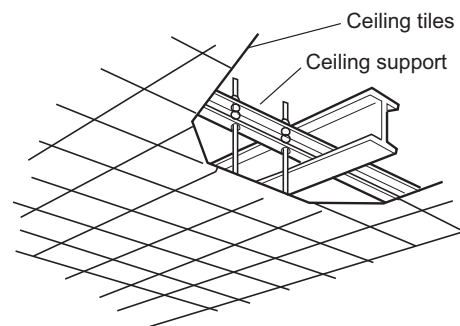

Fig. 2-177
- Use existing ceiling supports or construct a suitable support as shown in Fig. 2-177.